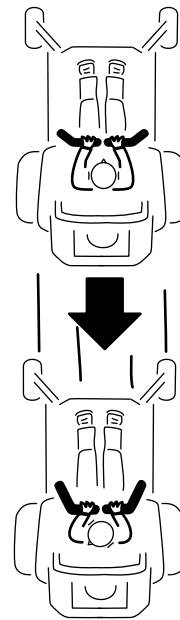

Figure 24
2. To go backward, slowly pull the motion control levers rearward (Figure 24).